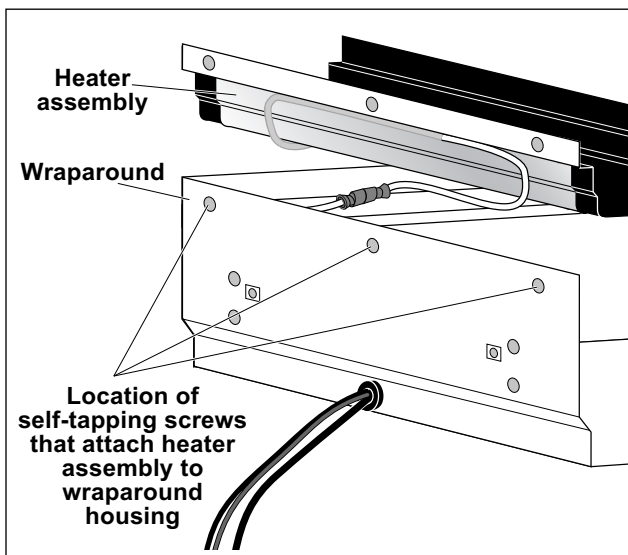

Figure 33. Screws Attaching Heater Assembly to Wraparound Housing
11. Remove the three self-tapping screws, Figure 33, on each end of the pan assembly then pull the heater assembly out of the wraparound housing.